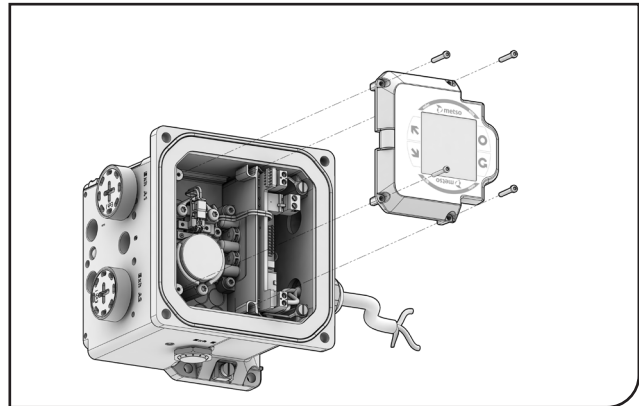

Fig. 93 NDX_511_ and NDX_512_
- o Loosen the prestage cover screws and remove the prestage cover (Fig 93, applies to NDX1510_ only)